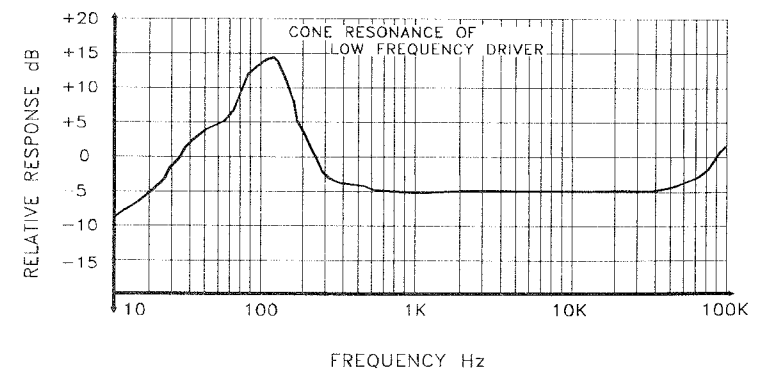

FIG 8. TESTING SPEAKER SYSTEMS AND IMPEDANCE NETWORKS.
- A. Connect equipment as shown in Test Set-Up in FIG. 8 for frequency response measurement except that the signal input to the speaker or impedance network is monitored. The oscilloscope may be used to verify that this instrument is not in a clipping condition.
- D. In speaker testing, a pronounced increase of voltage will occur at some low frequency. This is the resonance frequency of the speaker systems (FIG. 8). The speaker enclosure will modify the results obtained from the same speaker without an enclosure. A properly designed enclosure will produce a small peak on each side of the peak obtained without an enclosure. The enclosure designer can use the response characteristics to evaluate the effects of varying port sizes, damping materials and other basic enclosure factors.
- 1) Connect a variable resistor in series with the impedance network as shown in FIG. 8